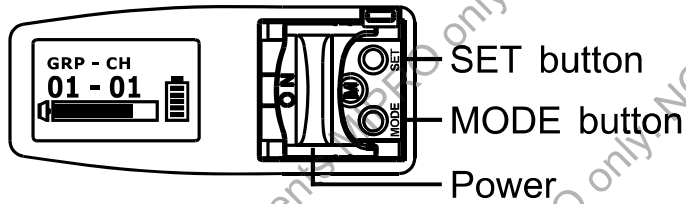

Fig. 3
- (A) Push the power switch upward to turn on. The LCD panel glows when power on. Push the power switch downward to turn off. Fig. 3, 4
- 3. Press SET button, the parameter blinks, press SET button again to change the parameter. Fig. 3